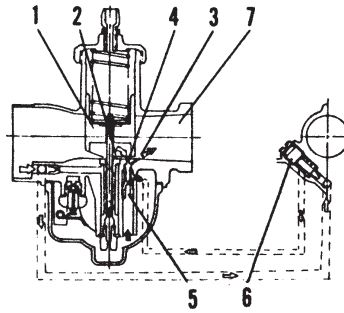
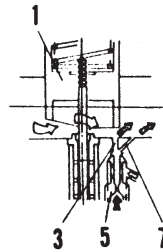

Fig. 2
Fig. 3
Motorcycle and snowmobile engines are operated under a wide range of conditions, from idling with the throttle valve (Fig. 2 (1)) remaining almost closed, to the full load (the maximum output) with the throttle valve fully opened. To meet the requirements for proper mixture ratio under these varying conditions, a - low-speed fuel system (the pilot system) and a main fuel system (the main system) are provided in Mikuni VM-type carburetors.
Low-Speed Fuel System (Fig. 2 and Fig. 3)
The mixture is again mixed with air coming from the bypass and is drawn into the pilot outlet to mix with air flowing through the main bore (7). The fuel mixed with air at this stage then goes into the engine. When the throttle valve is opened slightly during low speed operation, the pilot outlet alone cannot supply the required fuel and the shortage has to be made up with fuel injected from the bypass. The adjustment of the mixture ratio during this stage is made by the pilot jet and the air screw. In the case of a two-hole type fuel system (Fig. 3). While at low speed operation if full throttle is initiated a similar shortage of fuel exists and during this transition from low to medium or low to high the fuel again has to be injected from the bypass until enough vacuum can be created to draw fuel from the main fuel system.